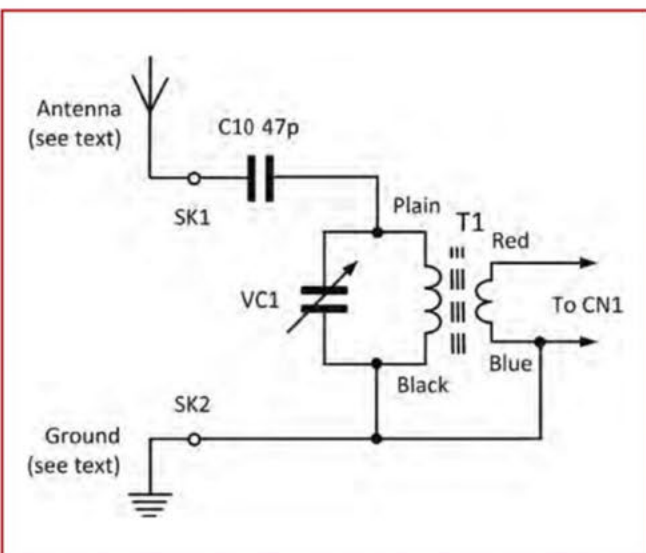

Fig.11. Tuned circuit 'off-board' components
FIG.9 shows our complete radio circuit ready for PCB conversion. Note that we have used three-pin terminal blocks in place of potentiometers VR1 and VR2 as *Circuit Wizard* does not offer an off-board option during the PCB conversion wizard process and we intend these to be case mounted. Note that the ‘tuned circuit’ is also to be mounted off-board (refer to Fig.11).
We incorporated three controls on to the front panel of the *Simple Radio*; power/gain, tuning and volume. The first of these is a dual switch/potentiometer device with the switch interrupting the power supply connection and the potentiometer connected as VR1. A miniature variable capacitor (Rapid part 12-0255) was used as part of the tuned circuit arrangement connected to CN1 (see Fig.11). This is a dual component, designed for use in 'superhet' radios that have both
- 1 47pF ceramic capacitor (C10) (see Fig.11)